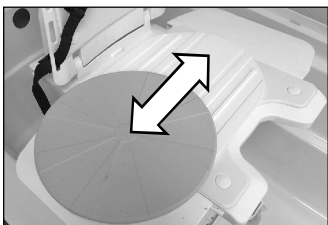

Figure 16
1. Place the swivel and transfer aid on the bath lift making sure that the round swivel plate is pushed toward the outside of the tub (Fig. 16).